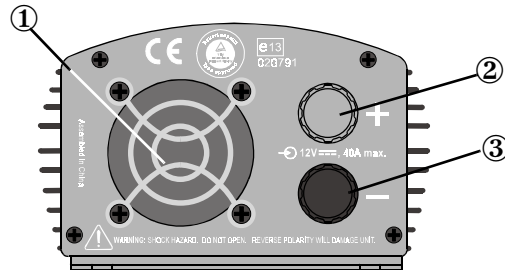
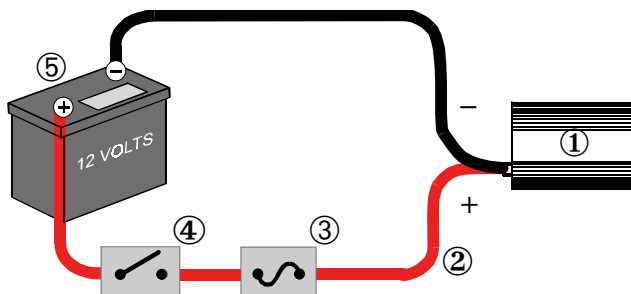

Figure 5 DC Panel on the 300 Inverter
Figure 6 Hardwiring the 300 Inverter to a 12 Volt Battery
③ **Power Light** The green PWR light is on all the time when the On/Standby switch is on.
④ **Fault Light** The red FAULT light indicates that the inverter has shut down because of low or high battery voltage, AC overload, or excessively high temperatures.
⑤ **Mounting Flanges** Mounting flanges on the AC and DC ends allow you to mount the inverter permanently. For additional information, see “Fastening the Inverter to a Mounting Surface” on page 8.
**Fan** The fan (see Figure 5) turns on when an AC load of 100 watts or larger is plugged in.
Your method will depend on the size of the AC loads you want to power. When you connect the inverter, refer to Figure 5 and Figure 6.
**Loads of any size (up to 300 watts continuous power)** For a permanent electrical connection, or when you need to power some loads that are greater than 150 watts and some that are less than 150 watts, you can hardwire the inverter to the battery. This eliminates the need to switch between the battery clip wire assembly and the cigarette plug wire assembly. A hardwired installation is illustrated in Figure 6.
3. Install a 40 amp automotive fuse and a switch rated at 40 amps in the positive (red) wire, close to the end that will attach to the battery. See Figure 6. The switch lets you disconnect the DC power if you need to replace the in-line fuse. Solder and insulate the connections as detailed in Step 2 above.
- If you need to replace the in-line fuse (see Figure 6), turn off the in-line switch to disconnect the DC power.